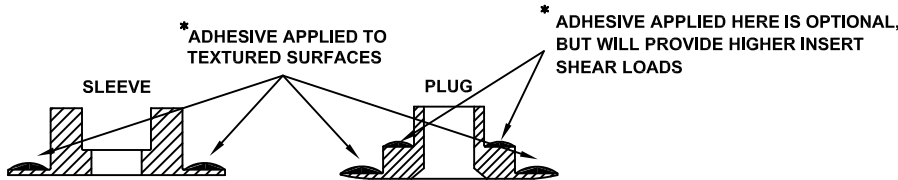

FIGURE 1
- D. Apply the adhesive in a manner that will ensure it completely covers the faying surface between the insert flange and panel after insert installation. If adhesive is applied to the panel, try not to apply it outside the area covered by the insert flange. See figure 1.